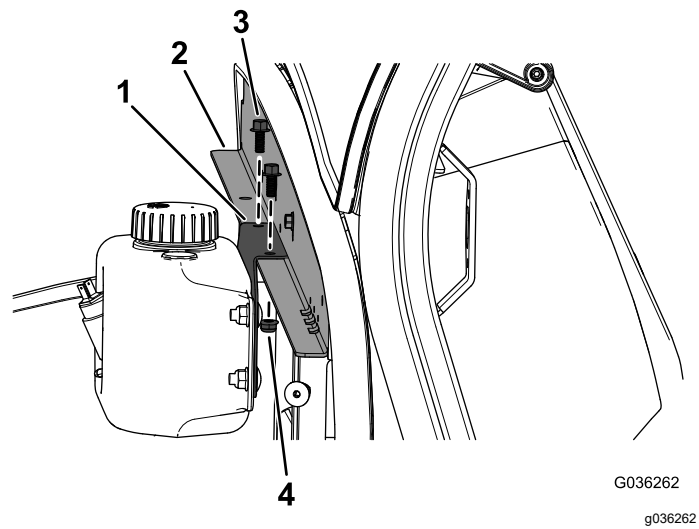

Figure 3
3. Install the washer bottle bracket mount to the dash reinforcement with the 2 flange-head screws (1/4 x 5/8 inch) and 2 locknuts (1/4 inch) as shown in Figure 3.